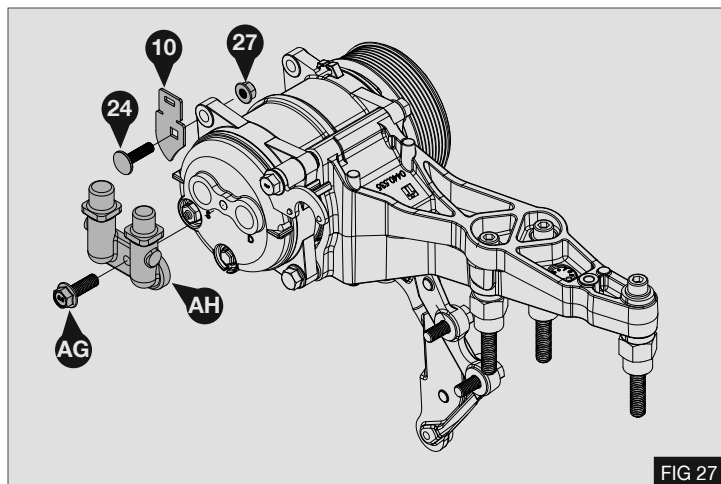

FIG 27
9. Refit the suction/discharge manifold (AH) and torque bolt (AG) to 25 Nm / 18 lb. ft. Slide the battery cable bracket (10) together with bolt (24) already installed into the cable holder and fasten it to the compressor as shown. - Fig 27
10. Torque bolts (19) to 58Nm / 43lb. ft. - Fig 27